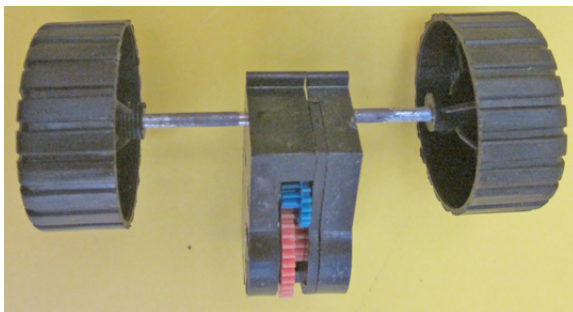

Figure 9: toy car with motor unit intact
6. Carefully pry apart the motor housing, which consists of two halves in these examples. See Figures 9 and 10. This will almost certainly result in gears falling out as you proceed. Our goal is to examine the coiled spring which you will find located in one side of the motor housing. **DO NOT REMOVE THE COILED SPRING!** The parts are small and may be awkward to handle, but try to use your fingers, a screwdriver, or anything that you might consider useful (e.g., a wooden craft stick, a piece of tape, etc.), to keep the spring in its housing as you pull the halves of the motor apart. Try not to lose any gears (some are very small) in the event you later want to consider their role in the motor's operation or you want to try reassembling the motor. (A small plastic bag is provided for saving these parts.)